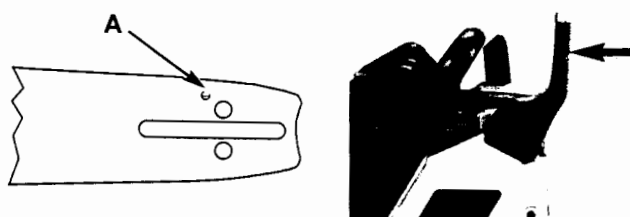

Fig. 17
CAUTION: To ensure the bar and chain receive oil, **ONLY** USE THE ORIGINAL STYLE BAR with the oil passage hole (A) as illustrated in Fig. 17.
1. Make sure the Chain Brake® lever is pulled back into the DISENGAGED position (Fig. 17).